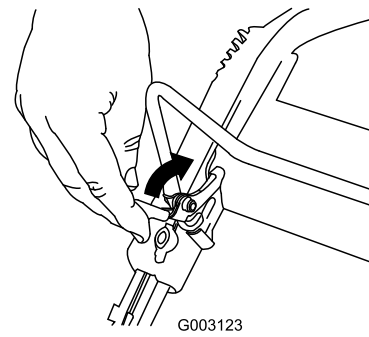

Figure 15
1. Pull the control bar lock back (Figure 15).